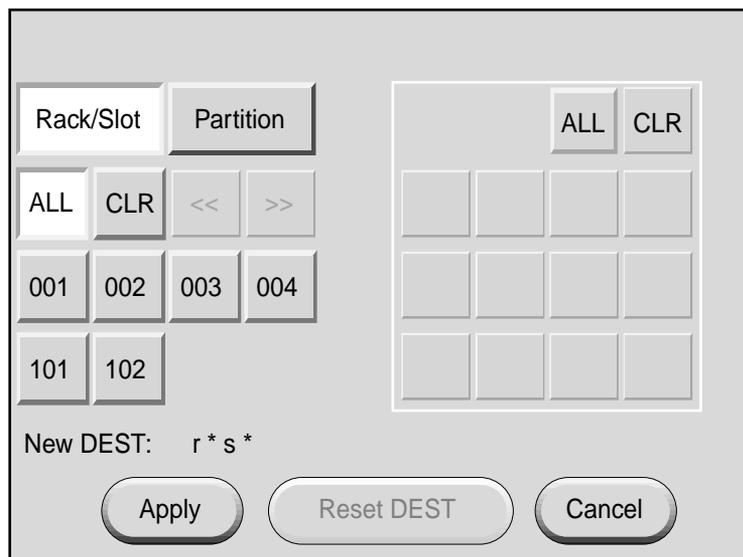

Figure 1-17 Destination Selection Window
1. Select the **DEST:** button from the home window and the destination selection window, shown in Figure 1-17, appears. Use this window to select the bricks or partition you want to power off.